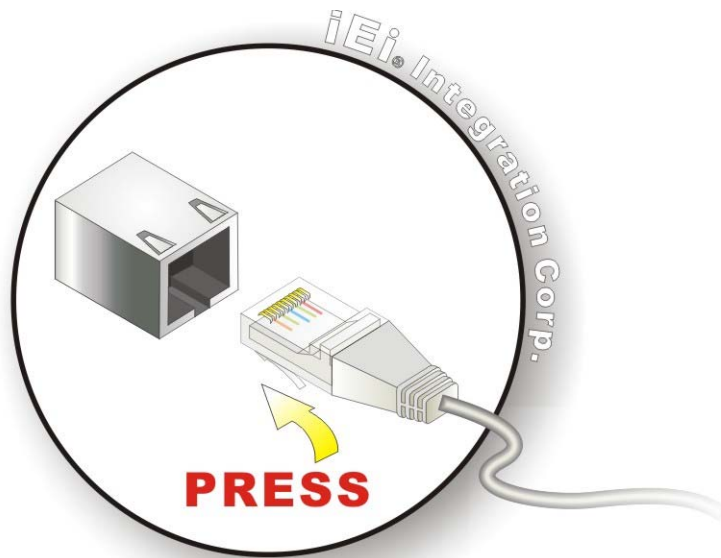

Figure 4-16: LAN Connection
Step 2: Align the connectors. Align the RJ-45 connector on the LAN cable with one of the RJ-45 connectors on the WSB-H610. See **Figure 4-16**.